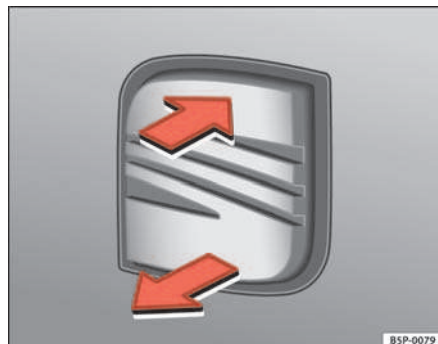

Fig. 67 Tailgate: Opening from the outside
- Pull on the release lever and lift the tailgate ⇒ fig. 67. The tailgate will then open.